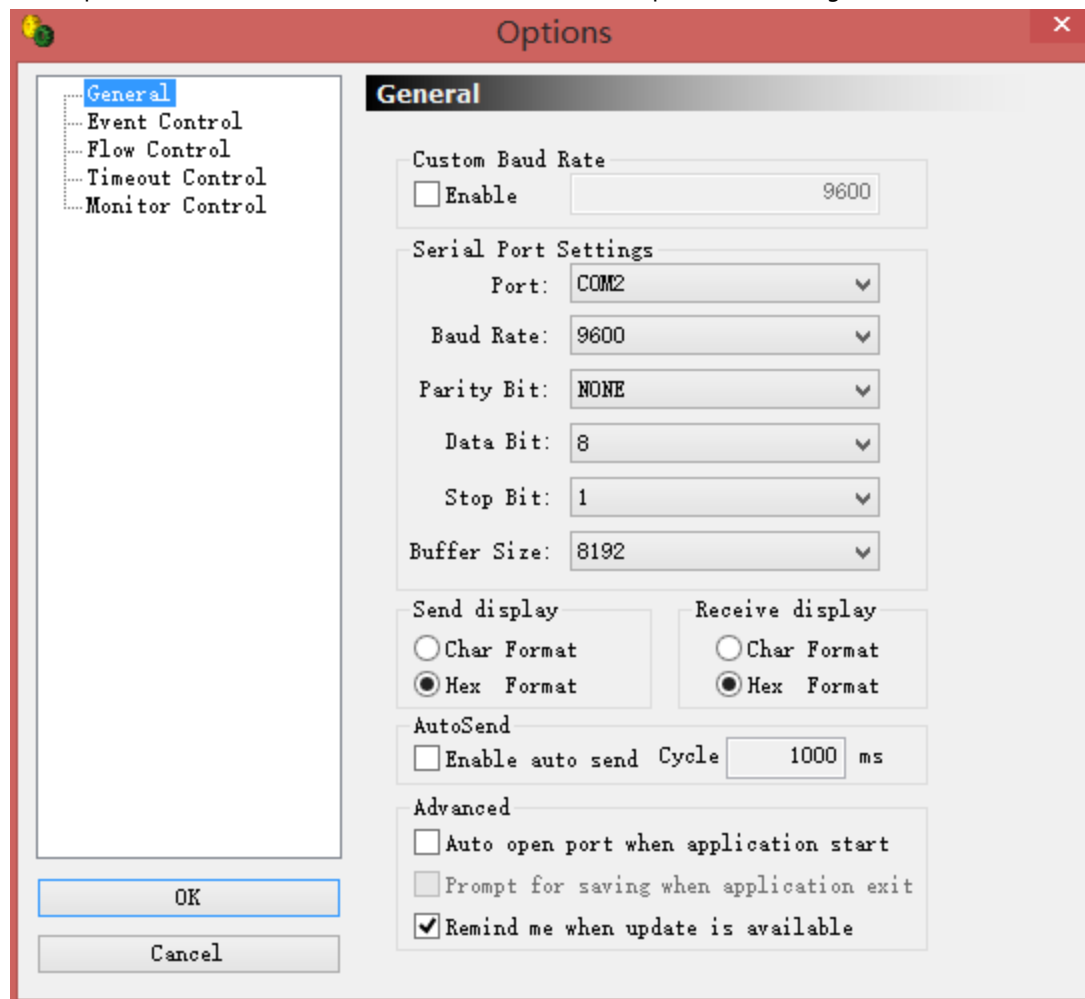

Figure 6: Configure AccessPort software
- Operate AccessPort software and select the correct serial port code (See Figure 6).